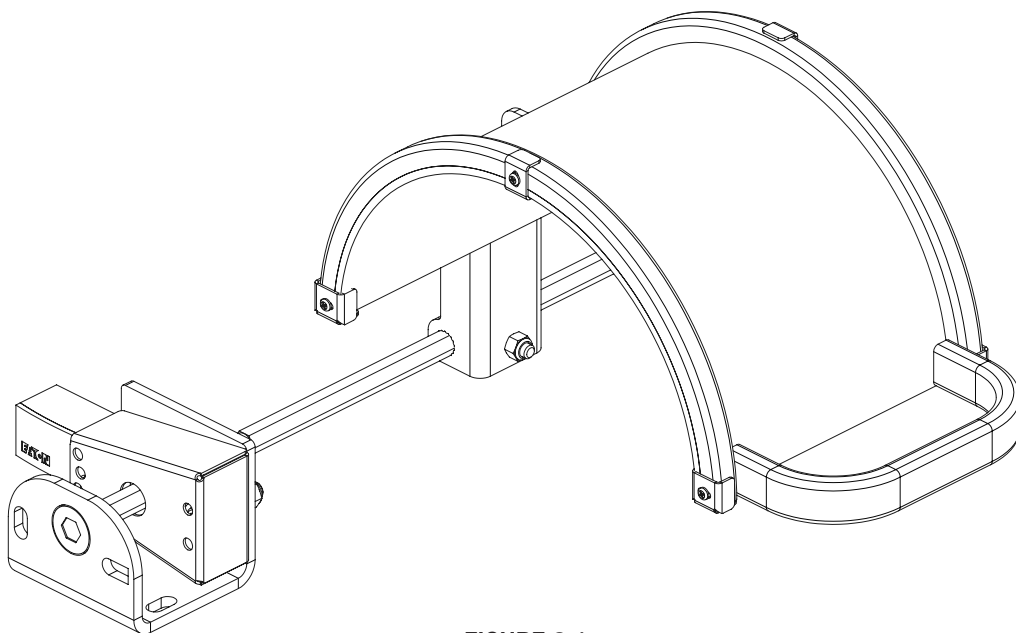

FIGURE 2.1
3. Locate the Mounting Assembly on the machine as desired to allow placement of the Shield for providing the best protection and operation. (See Section 4 MECHANICAL ILLUSTRATIONS, Figures 2.1 thru 2.9 for various options)